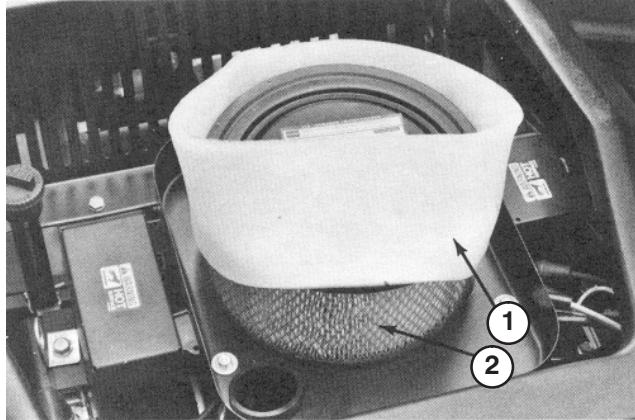

Figure 24
2. Remove the foam pre-cleaner by sliding it off of the paper element (Fig. 24).